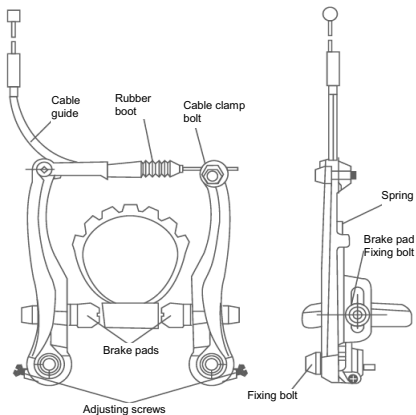

Figure 10
- Both pads should have the same distances to the rim, about 1-2 mm. They can be adjusted with adjusting screws. (Figure 10)